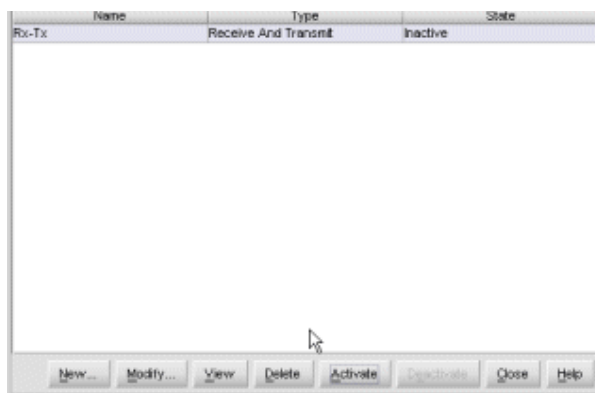

Figure 36: Configure Threshold Alerts dialog box—alert activated
13. At this point, the alert is not active. To activate the alert, choose the alert information that displays in the Configure Threshold Alerts table and click **Activate**. The alert is activated as shown in Figure 36.